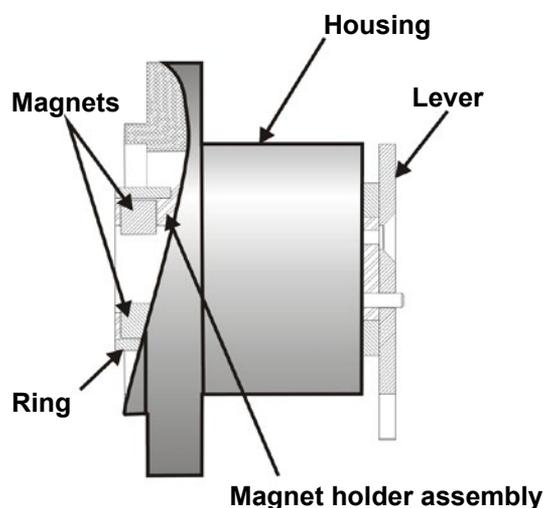

Figure 26 - Magnet Holder for Reciprocating Valves
2. Mount the SVI FF reciprocating mounting bracket to the actuator using two (2) 5/16 - 18 UNC cap screws. The mounting location of the bracket depends on the size and stroke of the actuator. Refer to Figure 26 and Table 7 on page 57.